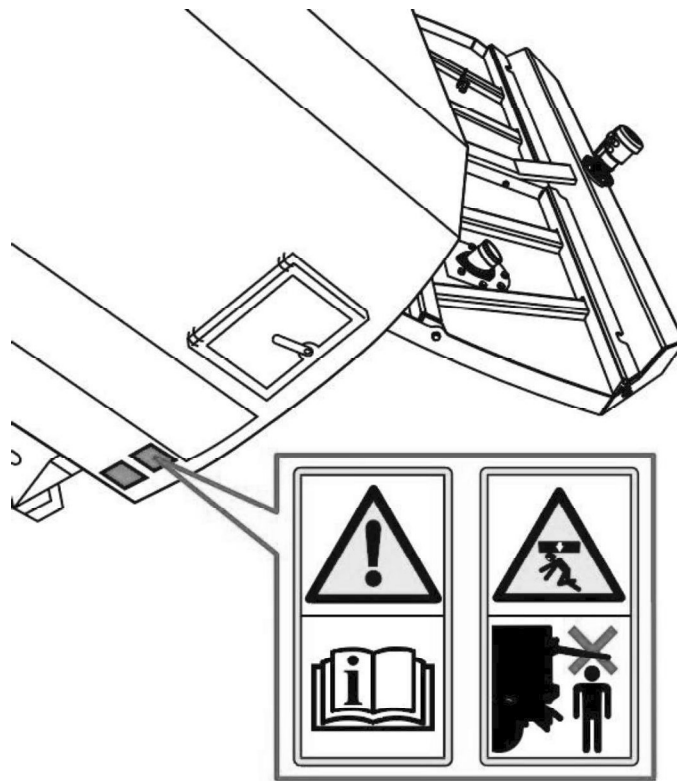

Figure 1 – Location of labels installed both sides
1. With the door in a fully closed position and the body (hopper) down, clean the surface and affix a label to each side of the body in the position shown (Figure 1).